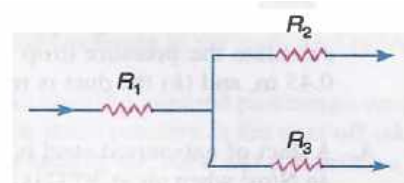

Fig. 20.27
**Example 1:** A duct system is represented diagrammatically as shown in Fig. 20.27,